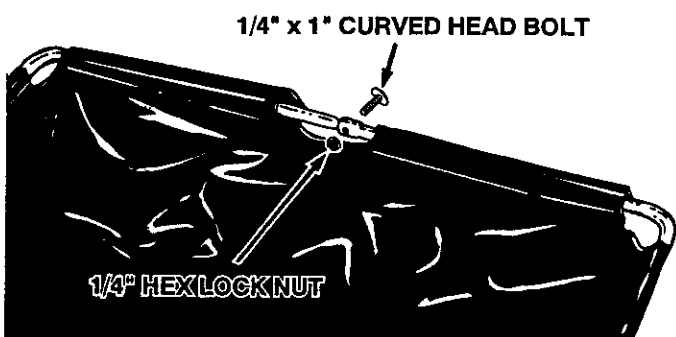

FIGURE 9
- Fasten the upper hopper tubes together using a 1/4" x 1" curved head bolt and a 1/4" hex lock nut. Tighten. See figure 9.